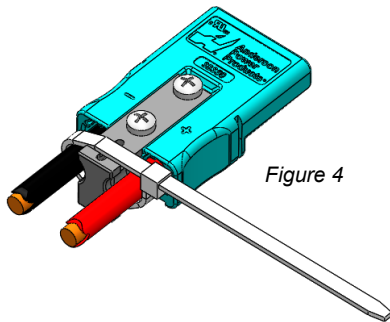
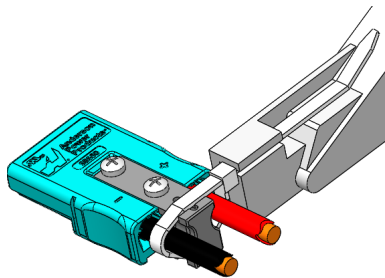
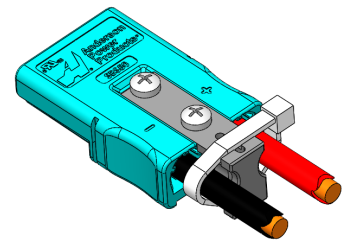

Figure 4
Figure 5
Figure 6
5. Apply the wire tie, wrapping the wire tie around cables and clamp as shown (figure 4). If using the wire tie installation tool, follow installation tool's instructions as shown (figure 5). If tightening by hand, tighten wire tie until fully secure, then cut the excess off as shown (figure 6).